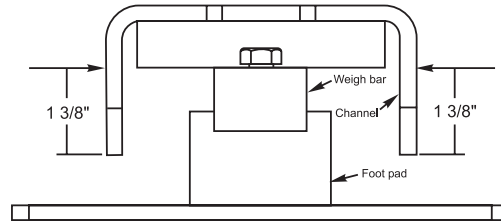

Figure 3
- Existing holes can be used to bolt bracketing to the channel with 3/8" bolts. Additional holes may be drilled into the channel, but should be in line with the existing holes, 1 3/8" from the bottom of the channel leg. See Figure 3. A block should be temporarily placed between the channel and the weigh bar to protect the weigh bar from damage at drill bit break-through.